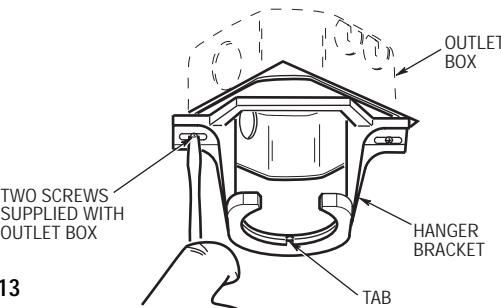
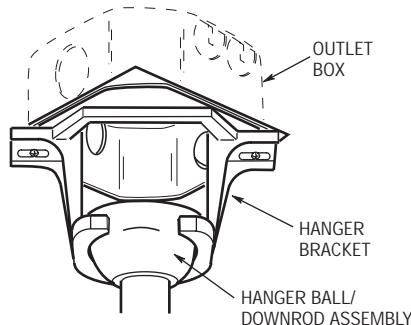

Figure 13
Figure 14
1. Securely attach the hanger bracket to the outlet box using the two screws supplied with the outlet box. (Figure 13).
2. Carefully lift the fan and seat the hanger ball/downrod assembly on the hanger bracket that was just attached to the outlet box (Figure 14). Be sure the groove in the ball is lined up with tab on the hanger bracket (Figure 13).